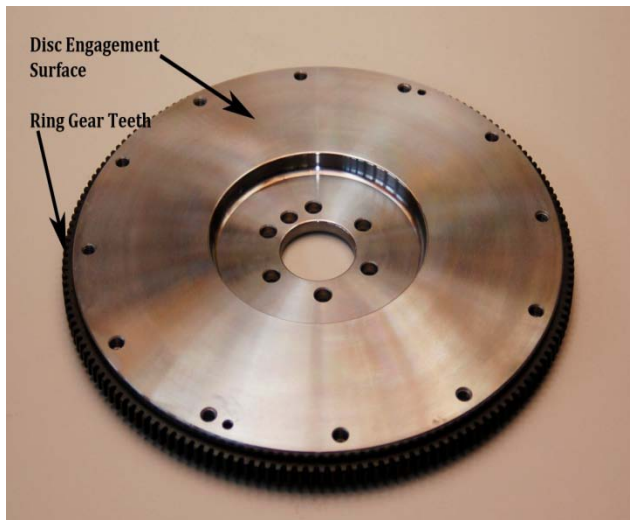

Figure 3
- 4) Inspect flywheel for chipped teeth on Ring Gear and be certain the flywheel/disc engagement surface is clean, flat and free of oil and/or grease. Be certain the pilot bearing is in place and is clean and free of nicks and burrs. If damaged, replace the pilot bearing. Test fit the pilot tool to see how far the tool engages the pilot bearing. See Figure 3.